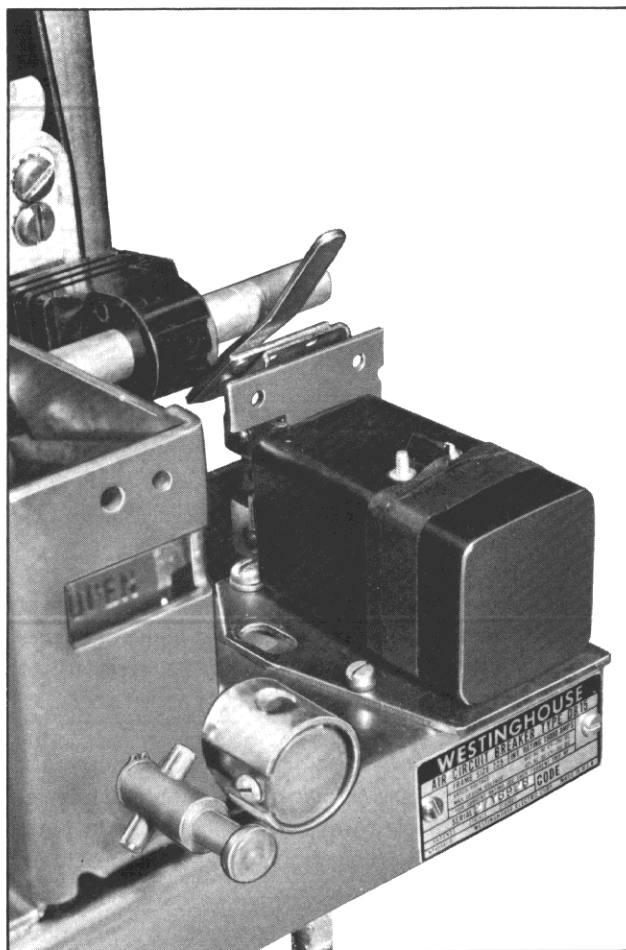

Fig. 15 Actuator Mounted on DB-15
3. Using the Actuator as a template, drill and tap a .190-32 hole in the breaker platform in the location of the .203 dia. hole in Actuator base. Temporarily secure Actuator to platform using .190-32 x .75 screw, nut and washers, see Fig. 15.